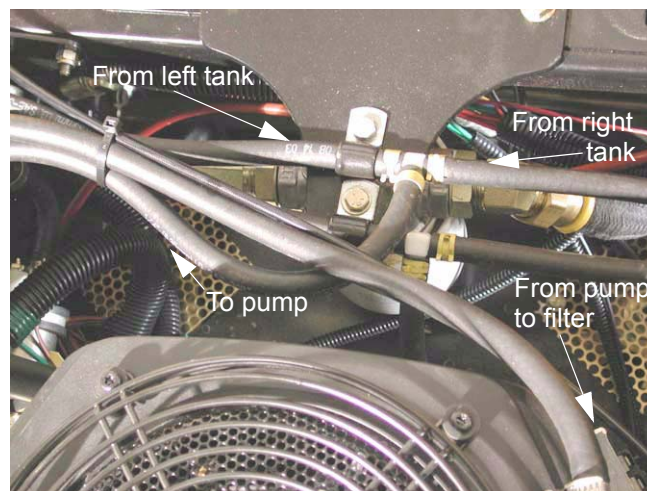

Figure 10.4
- 10.4. The fuel lines from each tank Tee into a single line that feeds the fuel pump. See Figure 10.4.